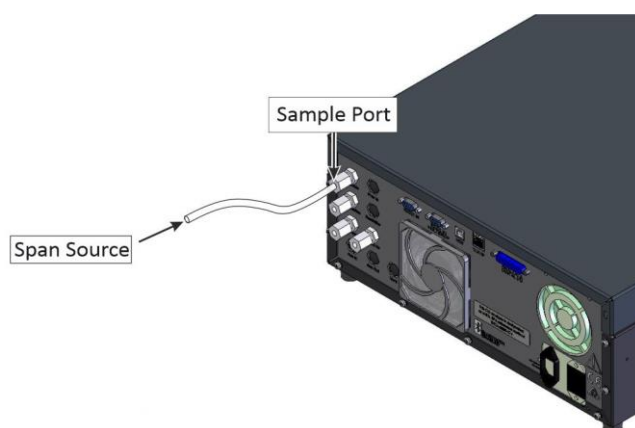

Figure 119 – Span Calibration Set-up - 2
1. Refer to Figure 119. Ensure suitable span source is connected to the **Sample Port**.